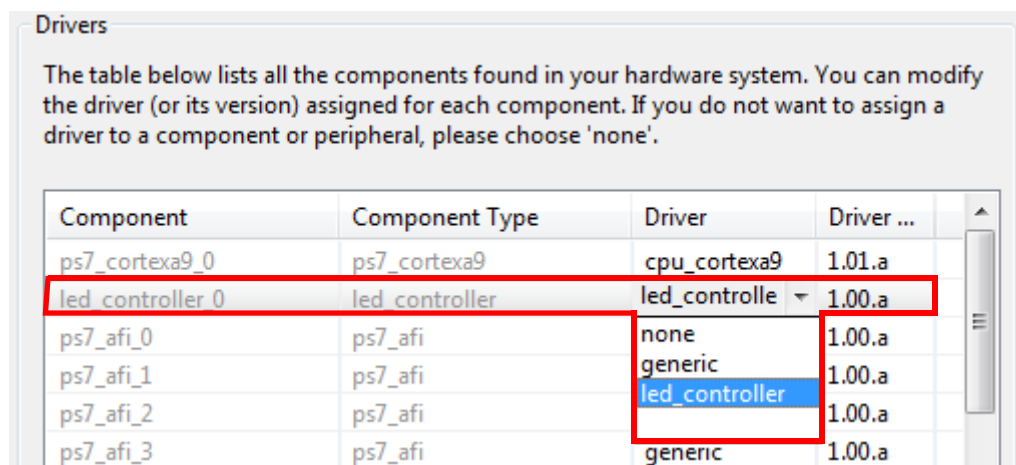

Figure 4.13: LED Controller driver selection
- (bg) Select **drivers** from the left-hand menu. From the list of components in the *Drivers* pane, identify **led_controller_0** and select **led_controller** from the drop-down menu in the **Driver** column, as shown in Figure 4.13.